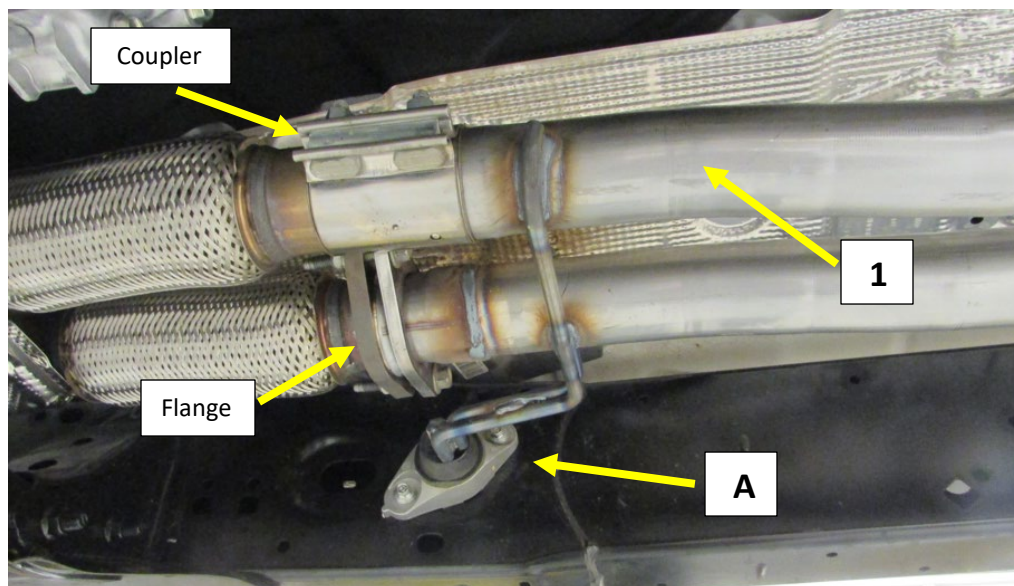

Figure.5
3. Install the Inlet pipe (**1**) into the coupler at the left flex section, align the flange with the right flex section. **Fig.5**
5. Align the hanger assembly (**A**) onto the frame rail and install the (x2) 10mm bolts. **Fig.5**